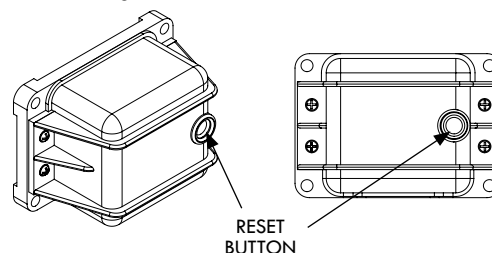

Figure A-145: Vibration Switch RESET button
- B. With machine running, back off adjusting screw one turn CCW and reset (see Figure A-145). If it will not reset, back screw off two turns CCW, etc. Again turn screw slowly clockwise until actuation occurs. The difference between the two actuating points in "a" and "b" is the normal vibration level in divisions. One dial division is 0.1G; one full revolution is 1.0G.